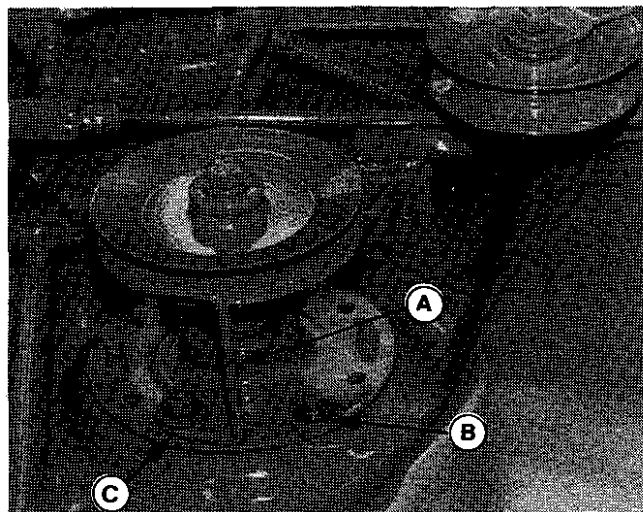

Figure 3.
3. The belt stop (A, figure 3) and hardware must be relocated to hole (C) shown. Install self-tapping screw (B), which was removed, in place of belt stop.